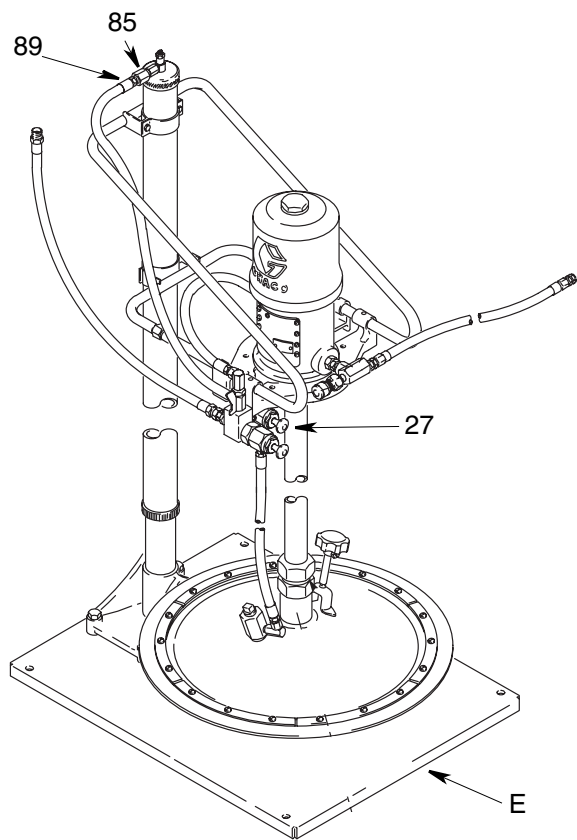

FIG. 8
1. Remove the plug from the top of the elevator cap and screw it into the air inlet (E) in the elevator base. (FIG. 8)
1. Screw the restrictor valve assembly (42) into the elevator cap.
2. Screw the 1/4 x 1/8 npt adapter (85) into the restrictor valve. (FIG. 8)
3. Install the 1/4 x 3/8 npt adapter (89). (FIG. 8)
4. Connect one end of the 36 in. (914 mm) hose into the adapter and the other hose end into the snap-over valve's (27) union (82). (FIG. 8)